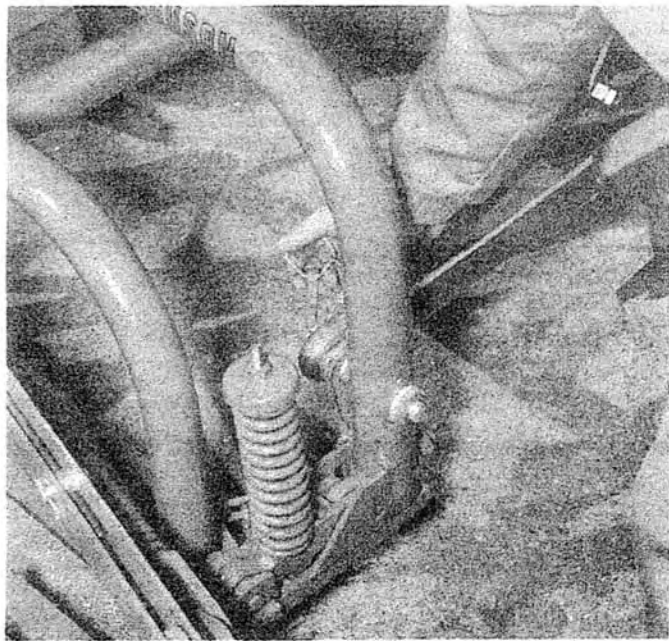

Fig. 14 - Attaching Right Link
5. Install the right link onto the link pin, (see Fig. 14) and lock with the attached lynch pin. It may be necessary to rock the tractor back and forth, or rock the mower by hand a little to provide alignment.